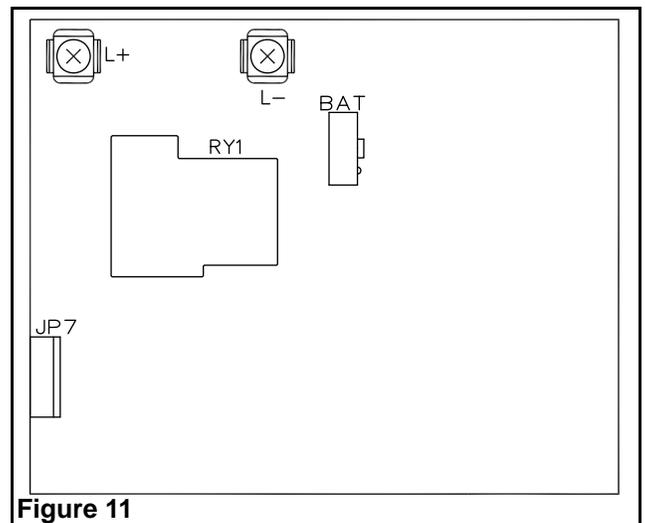

Figure 11
- g. In order to access the knockouts of the frame, remove the 4 electronic module screws holding the module to the frame (see fig. 3 & 4), disconnect the lamps from charger board terminal “L+ & L-” (see on fig. 11 ) and remove the electronic module.